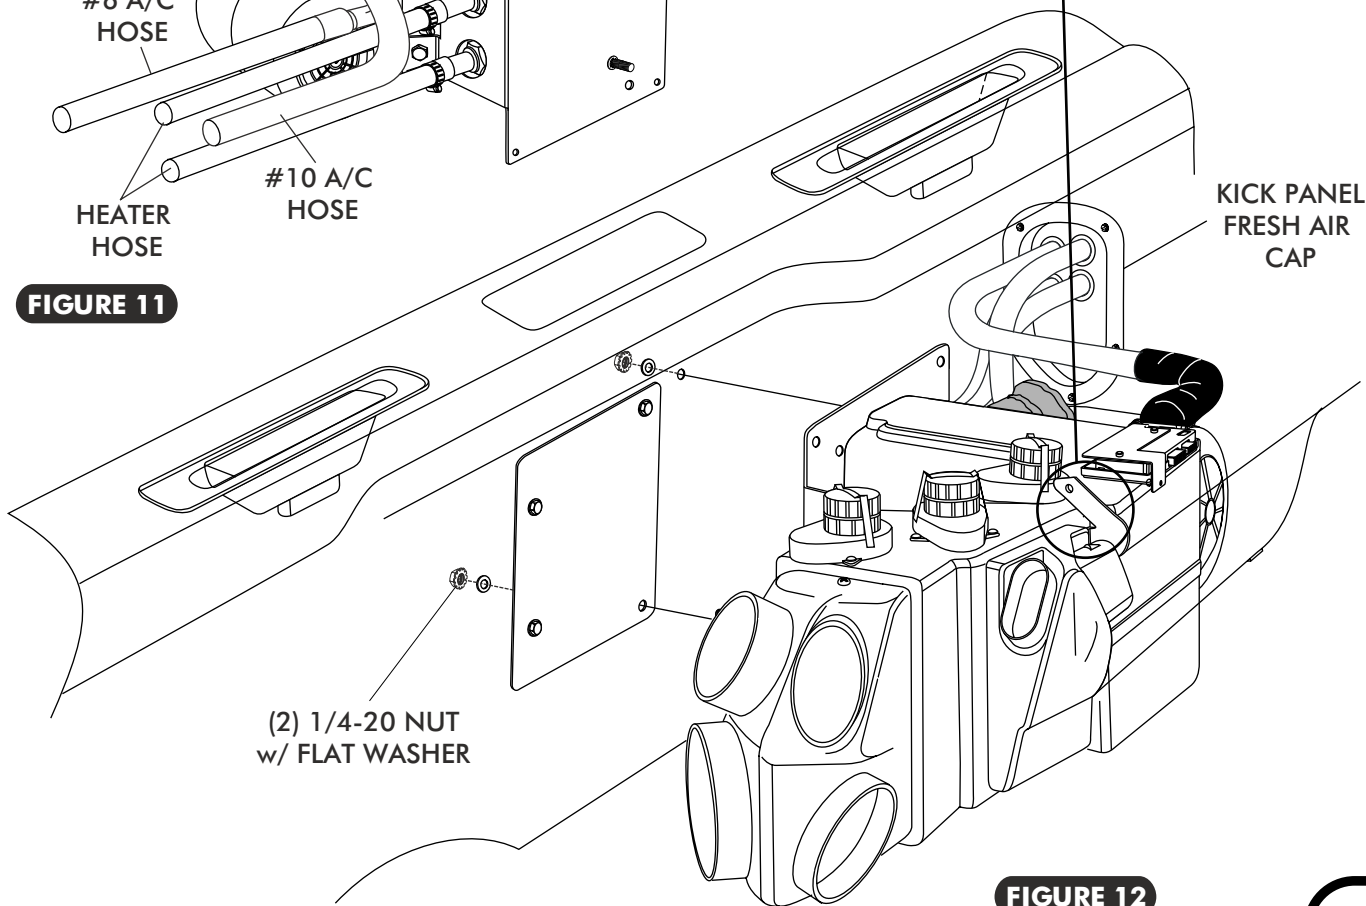

FIGURE 12
- ❑ LIFT EVAPORATOR UNIT UP UNDER THE DASHBOARD. SECURE LOOSELY TO THE FIREWALL FROM THE ENGINE COMPARTMENT SIDE USING (2) 1/4-20 NUT AND FLAT WASHER, SEE FIGURE 12.